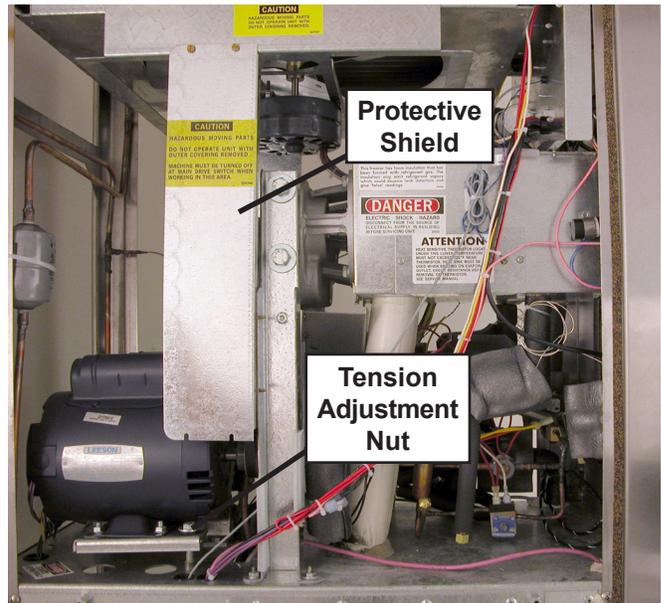

Figure 4-5 Motor Removal
5. Remove protective shield from side of machine. (Refer to Figure 4-5)
6. Loosen the belt tension adjustment nut and remove the belt. (Refer to Figure 4-5)